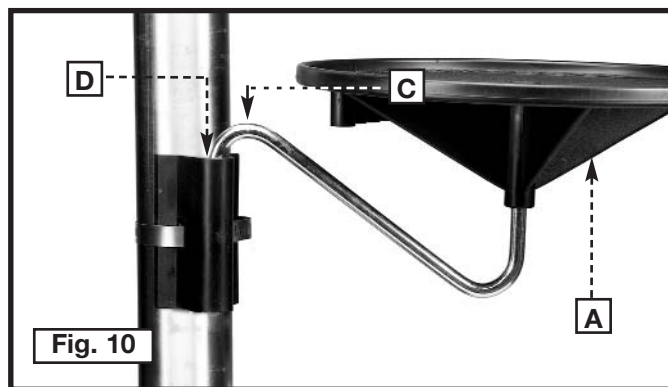

Fig. 10
7. Slide the mounting arm (C) with the tray (A) into the bracket (D) (Fig. 10).